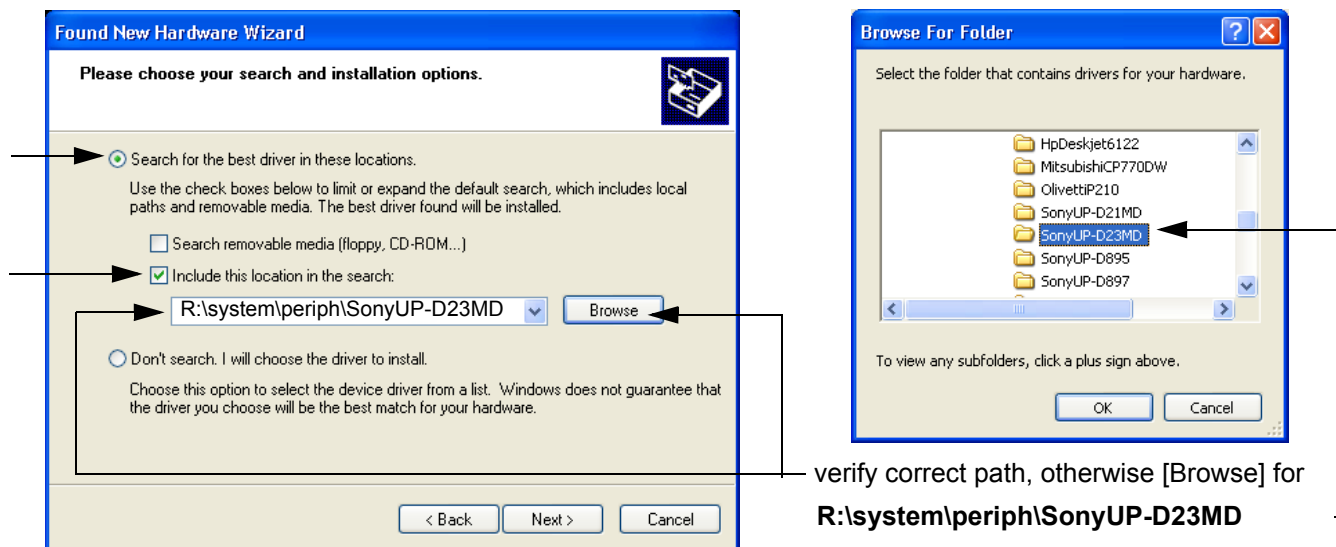

Figure 3-101 Search for Network path
- 4.) Select "Search for the best driver in these locations" and check mark "Include this location in the search" (see: Figure 3-101 on page 3-84).